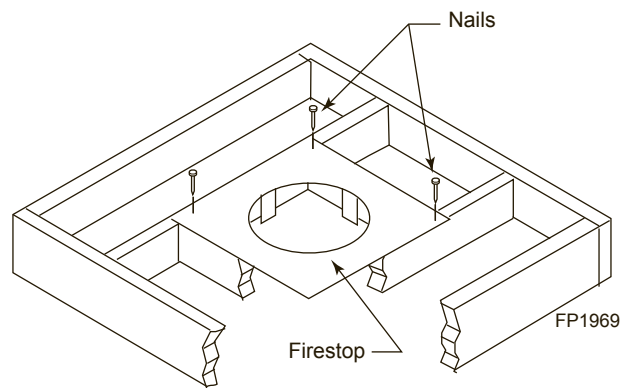
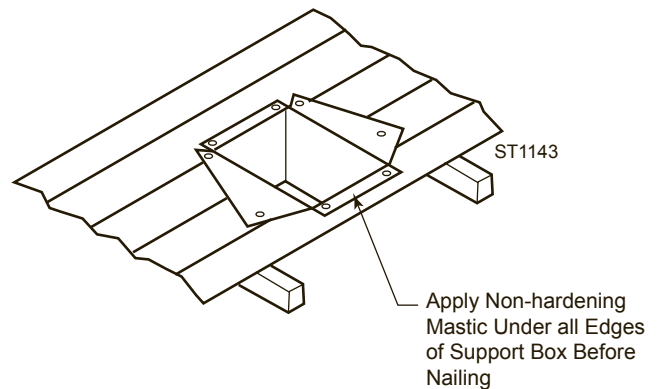

Figure 23 - If area above is a room, install firestop above framed hole as shown
Figure 26 -
required clearance space. *Figure 23*. Otherwise, install firestop below the framed hole. The firestop should be installed with no less than three nails per side. *Figure 26*
4. Using tin snips, cut the support box from the top corners down to the roofline and fold the resulting flaps over the roof sheathing. *Figure 26.* Apply a bead of non-hardening mastic around the top edges of the support box to make a seal between the box and the roof. Nail in place with roofing nails. Remove any combustible material that might be inside the support box.